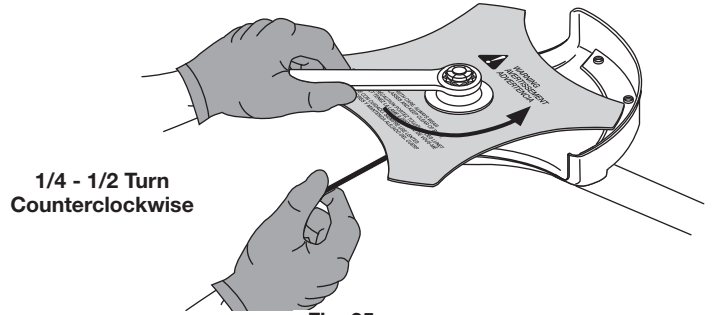

Fig. 25
- Without a torque wrench, use a 13 mm closed-end or socket wrench. Turn the nut until the blade retainer is snug against the shaft bushing. Make sure the blade is installed correctly, then rotate the nut an additional 1/4 to 1/2 turn counterclockwise (Fig. 25).